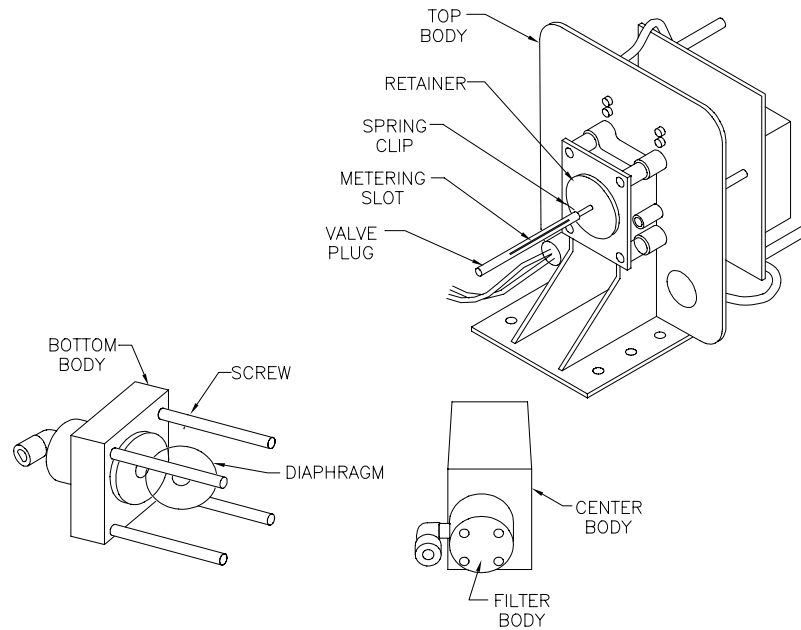

Figure 9 - Disassembled Valve
4.1 Cleaning Slotted Valve Plug (Refer to Figure 9)